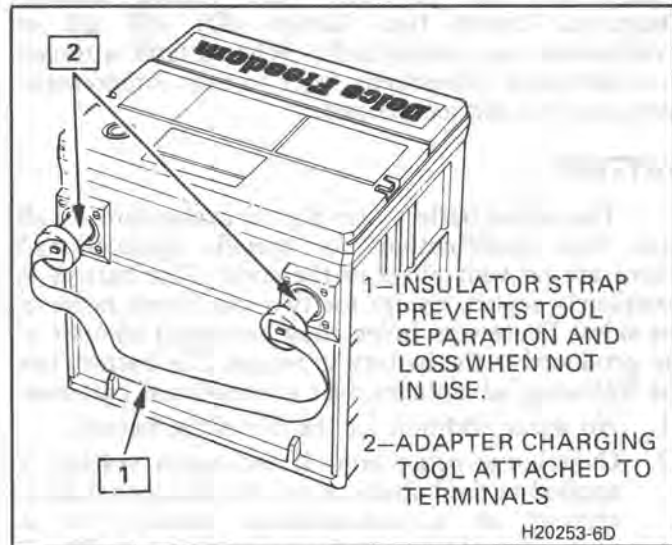

Fig. 2 Side Terminal Battery Adapters
Load testing may require use of battery side terminal adapters to insure good connections (see Fig. 2).
2. When charging sealed-terminal batteries out of vehicle, install adapter kit (AC Delco part number ST-1201 or GM part number 1846855, or equivalent). (Refer to Fig. 2.) Post-type batteries need no adapters.